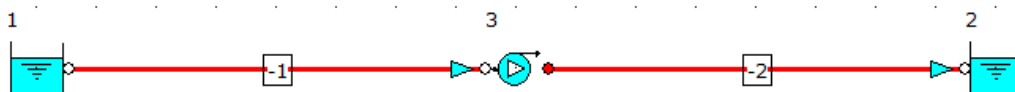

Figure 48: Hydraulic Model with Modified Draw Thickness and Draw Color.
49. The hydraulic model should now look like the screenshot given below (Figure 48).